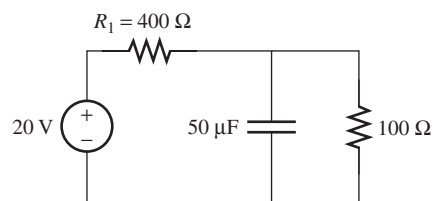

FIGURE P5.31 Circuit for Problem 5.31.
- 5.31 (A) Find the current flow through the resistor R_1 at $t = 0$ and $t = \infty$ in Figure P5.31. Assume that $v_C(t = 0) = 0$ V.